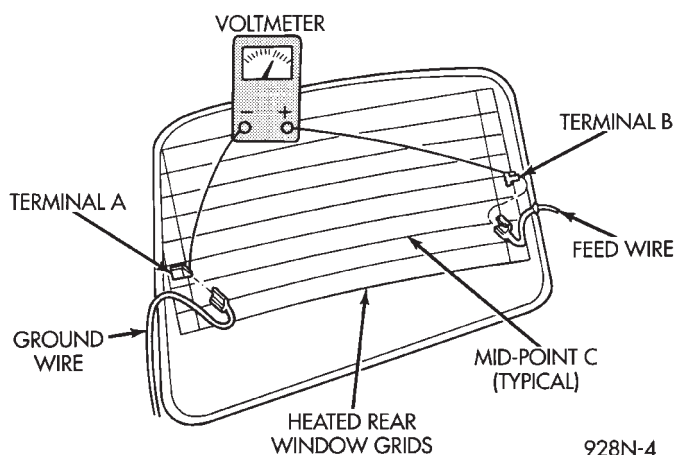

Fig. 2 Grid Line Test
- (1) Turn the ignition ON.
- (2) Turn rear window defogger control switch ON.
- (3) Using a ammeter on the battery, turn the Defogger control switch to the ON position, a distinct increase in amperage draw should be noted.
- (4) The rear window defogger operation can be checked by feeling the glass. A distinct difference in temperature between the grid lines and adjacent clear glass can be detected in 3 to 4 minutes of operation.
- (5) Using a DC voltmeter (Fig. 2) contact terminal B with the negative lead, and terminal A with the positive lead. The voltmeter should read 10-14 volts.
- (6) Only steps (3) and (4) or (5) above will confirm system operation. Indicator light illumination means that there is power available at the output of the relay only, and does not necessarily verify system operation.
- (7) If turning the switch ON produced no distinct current draw on the ammeter the problem should be isolated in the following manner:
(8) When the above steps have been completed and the system is still inoperative, one or more of the following is defective:
(1) Turn ignition and rear window defogger control switch ON. The indicator light should come on.
(2) Using a DC voltmeter with 0-15 volt range, contact vertical bus bar connecting grid lines on passenger side of vehicle at terminal A (Fig. 2) with negative lead of voltmeter. With positive lead of voltmeter, contact vertical bus bar on driver side of vehicle at terminal B (Fig. 2). The voltmeter should read 10-14 volts.